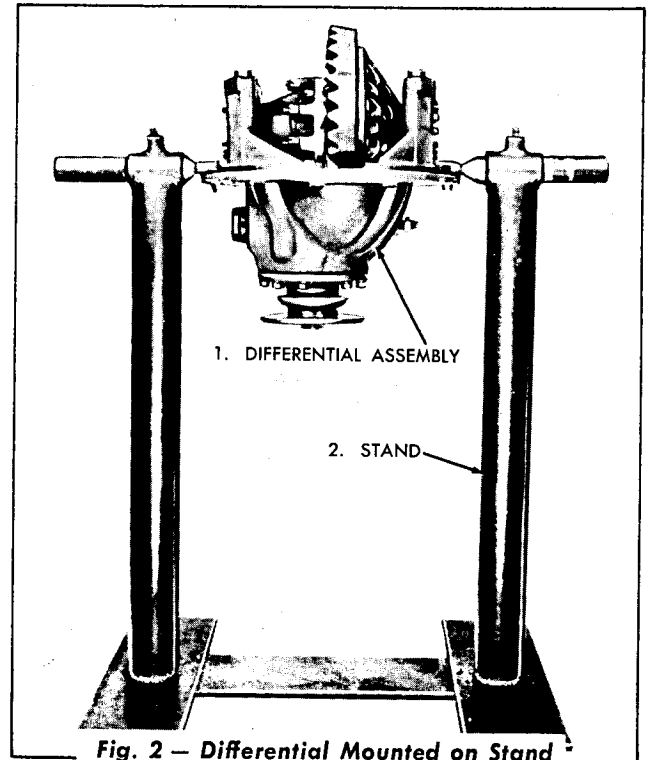

Fig. 2 — Differential Mounted on Stand
(Passage for Oil to Filter Shown in Fig. 2) |
1. Place the carrier assembly in a suitable holding fixture similar to the one shown in Fig. 2.